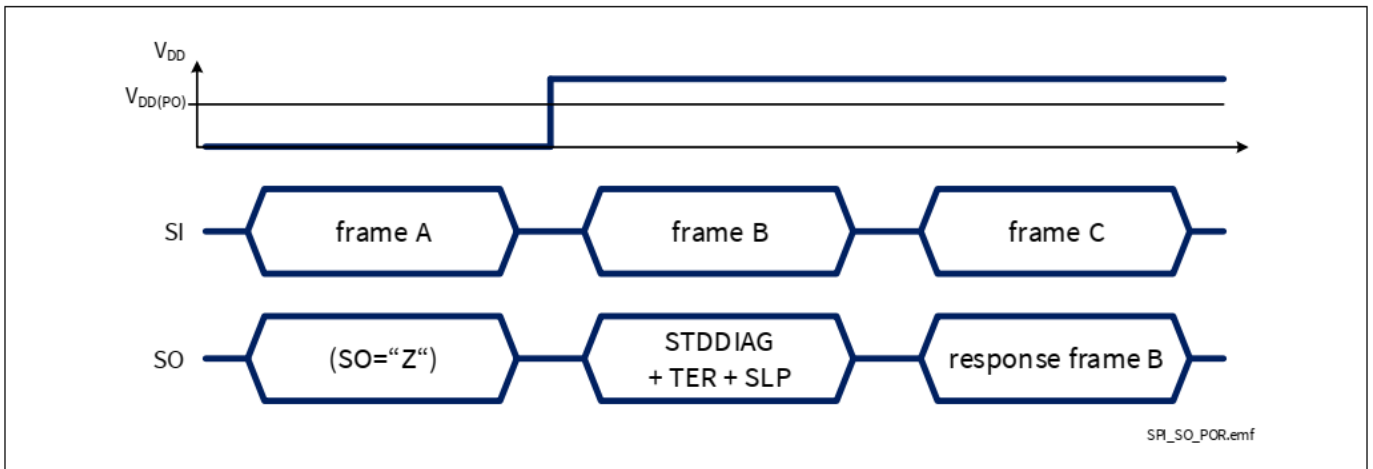

Figure 44 SPI response after coming out of Power-On reset at  $V_{DD}$
- BTS72220-4ESP 数字电源不满足上电复位条件时，如图 44